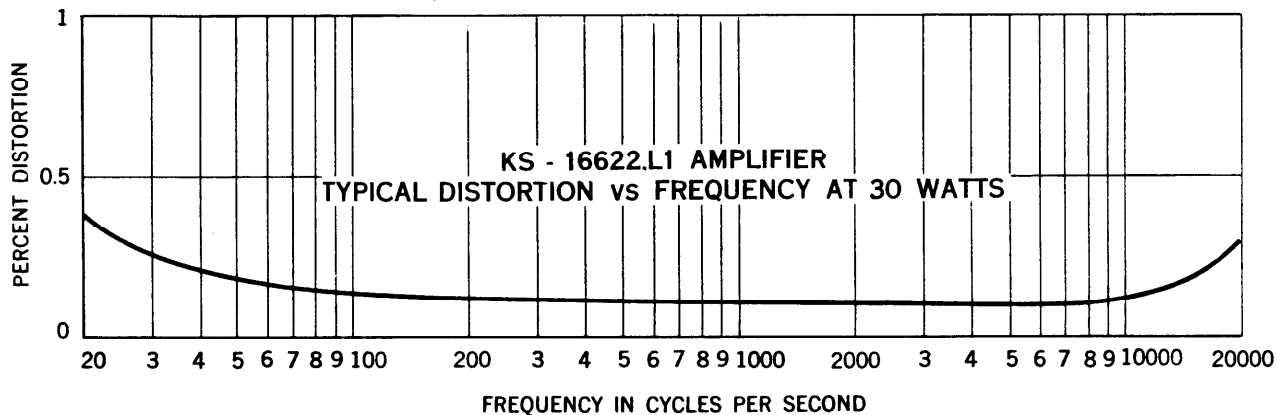

Fig. 5 – Harmonic Distortion
6.02 Fig. 5 shows the typical harmonic distortion characteristic of the amplifier.